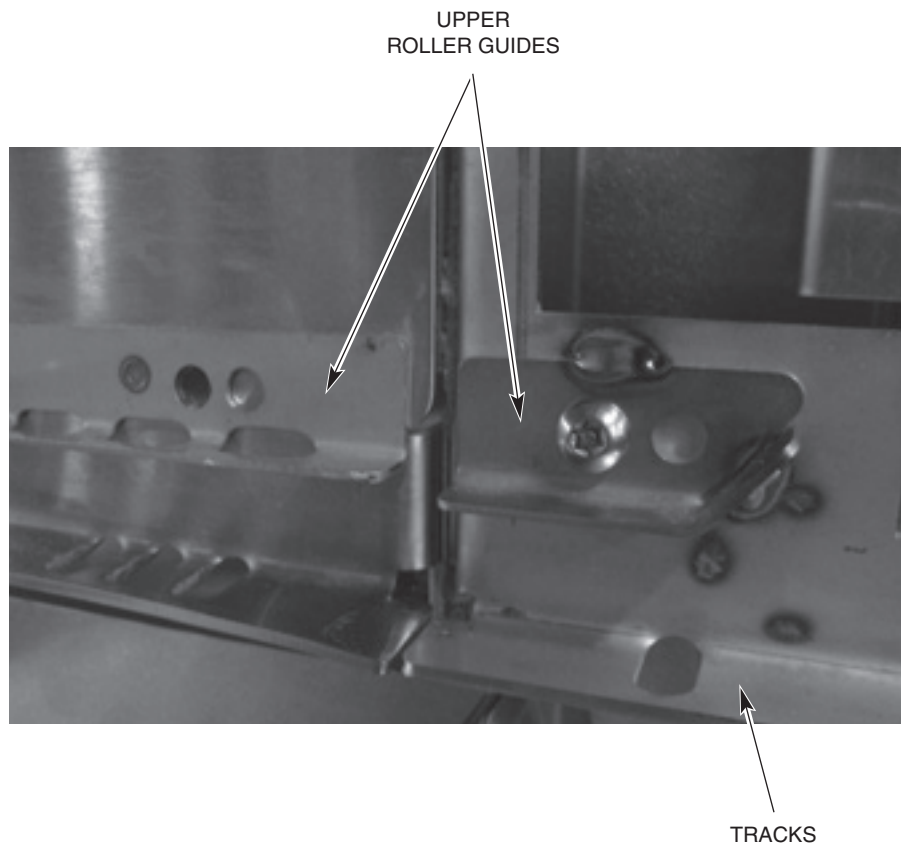

Fig. 33
- Tie a rope to the first conveyor rod. Feed the rope through the machine following the desired path of the conveyor with the flight links pointing up. The conveyor rollers must be fed between the upper roller guides and the tracks (Fig. 33).